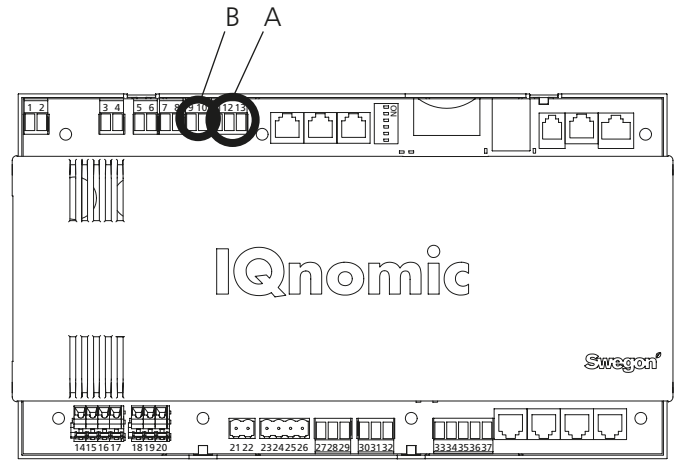

Fig. 6
Connect the 24 V AC supply voltage to terminals Vin+ (24) and GND (23). Supply voltage can be obtained from the control unit of the air handling unit, see below and B in Figure 6.
Connect the network from the GOLDen GATE communication unit to the control unit of the COMPACT unit (A in Fig. 6). Use a 3-wire cable.